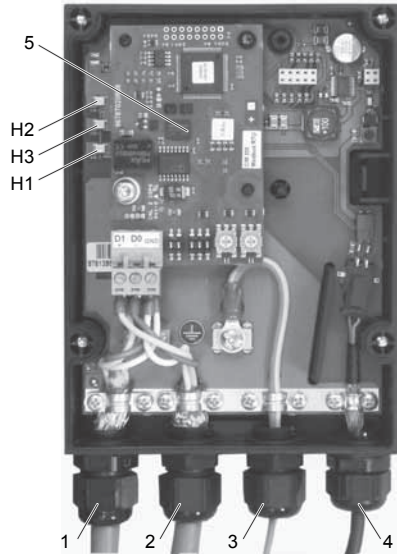

Fig. 1 E-box overview
Supply voltage of the E-Box: 30 VDC from DDA pump. See fig. 1, pos. 4.
To ensure a stable and reliable communication, the cable screen for GENibus connection must always be connected to the earth clamp. This is pre-assembled by Grundfos. See fig. 1, pos. 4.